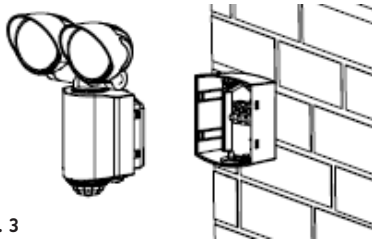

Fig. 3
- Reattach the luminaire to the rear panel (see Fig. 3)